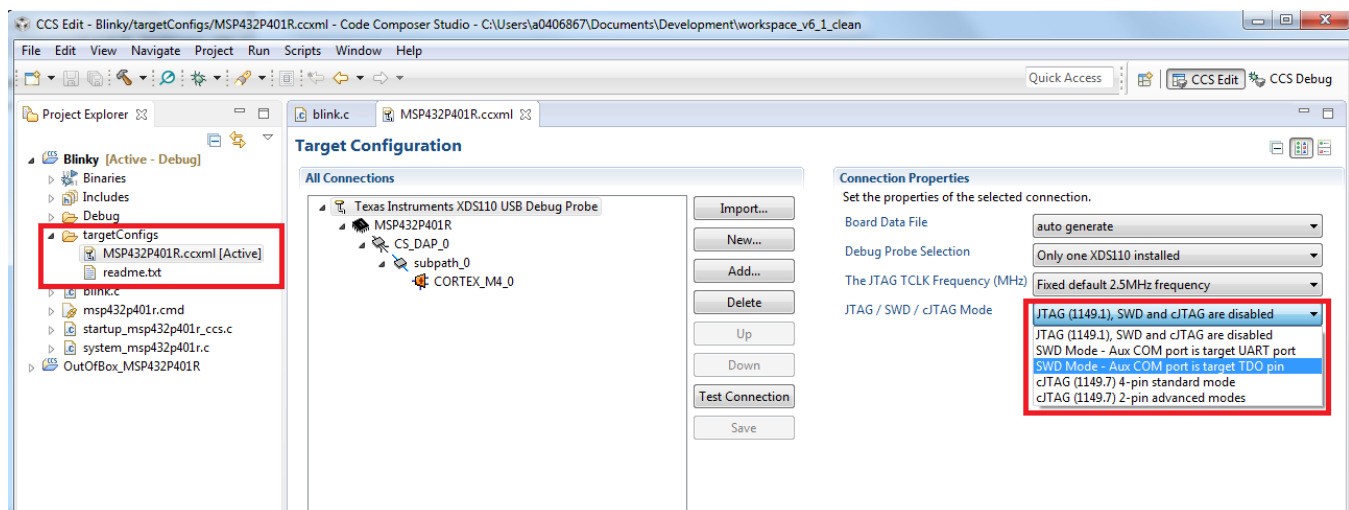

Figure 45. Change Debugger Settings to SWD
- Check the debugger settings: change to *SWD Mode – Aux COM port is target TDO pin*. When the settings of Port J (PJSEL0 and PJSEL1 bits) are changed, full JTAG access is prevented on these pins. Changing to use SWD allows access through the dedicated debug pins only. Figure 45 shows how to configure the debugger to use SWD instead of JTAG by modifying the MSP432P401R.ccxml file.